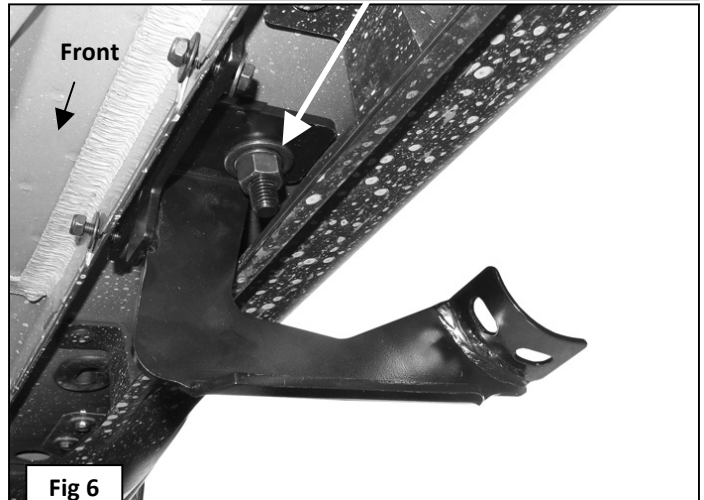

Fig 6
3. Select (1) Mounting Bracket and hang it from the Bolt Plate with (1) 12mm Flat Washer and (1) 12mm Flange Nut, **(Figures 6 & 7)**. Next, bolt the mounting plate on the Bracket to the front of the pinch weld with (2) 6mm x 25mm Hex Bolts, (4) 6mm Flat Washers and (2) 6mm Nylon Lock Nuts. Snug but do not fully tighten hardware at this time.